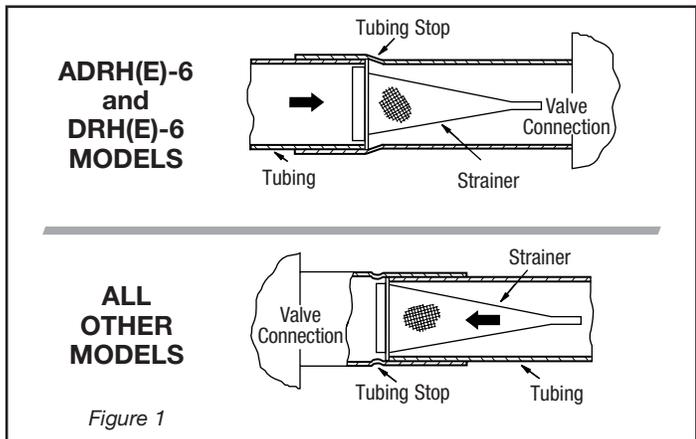

Figure 1
**STRAINER - CATCH-ALL FILTER-DRIER - SEE•ALL MOISTURE and LIQUID INDICATOR** - Just as with any refrigerant flow control device, the need for an inlet strainer is a function of system cleanliness and proper installation procedures. When the strainer is used, the tubing is inserted in the valve connection until the tubing and the strainer flange ring are up against the tubing stop, thus locking the strainer in place. See Figure 1. Moisture and particles too small for the inlet strainer are harmful to the system and must be removed. Therefore, it is recommended that a **Catch-All Filter-Drier** be installed according to the application recommendations in Bulletin 40-10.